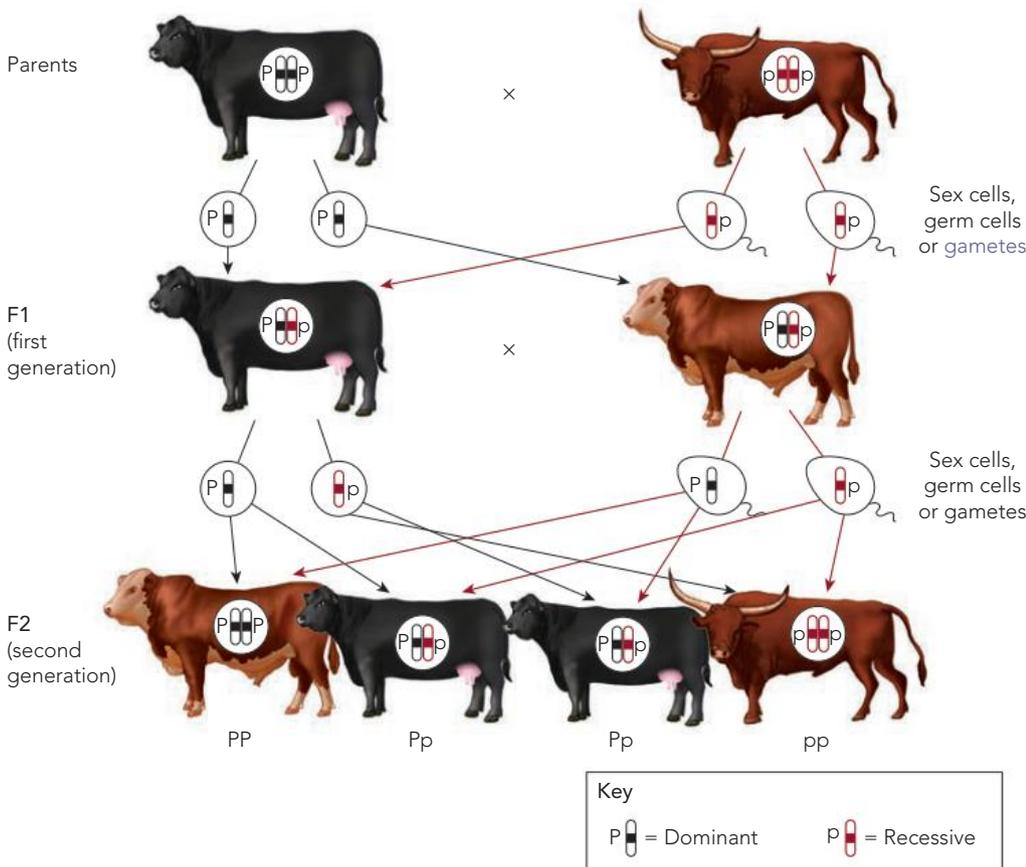

Figure 9.1 Inheritance of horns in cattle
The occurrence of horns on cattle is an example of complete dominance. A dominant gene is represented by an upper case letter and a recessive gene by the same letter, but in the lower case. Thus, in cattle, horns are caused by the recessive gene p , but the polled gene P is dominant to the horned gene p . A horned animal therefore has the genes pp , whereas one that is polled may have genotypes PP or Pp . Figure 9.1 shows what happens when a pure-breeding, or **homozygous**, polled animal (PP) is crossed with a pure-breeding, or homozygous, horned animal (pp). Animals that are not purebred for a characteristic are called **heterozygous** for that character.